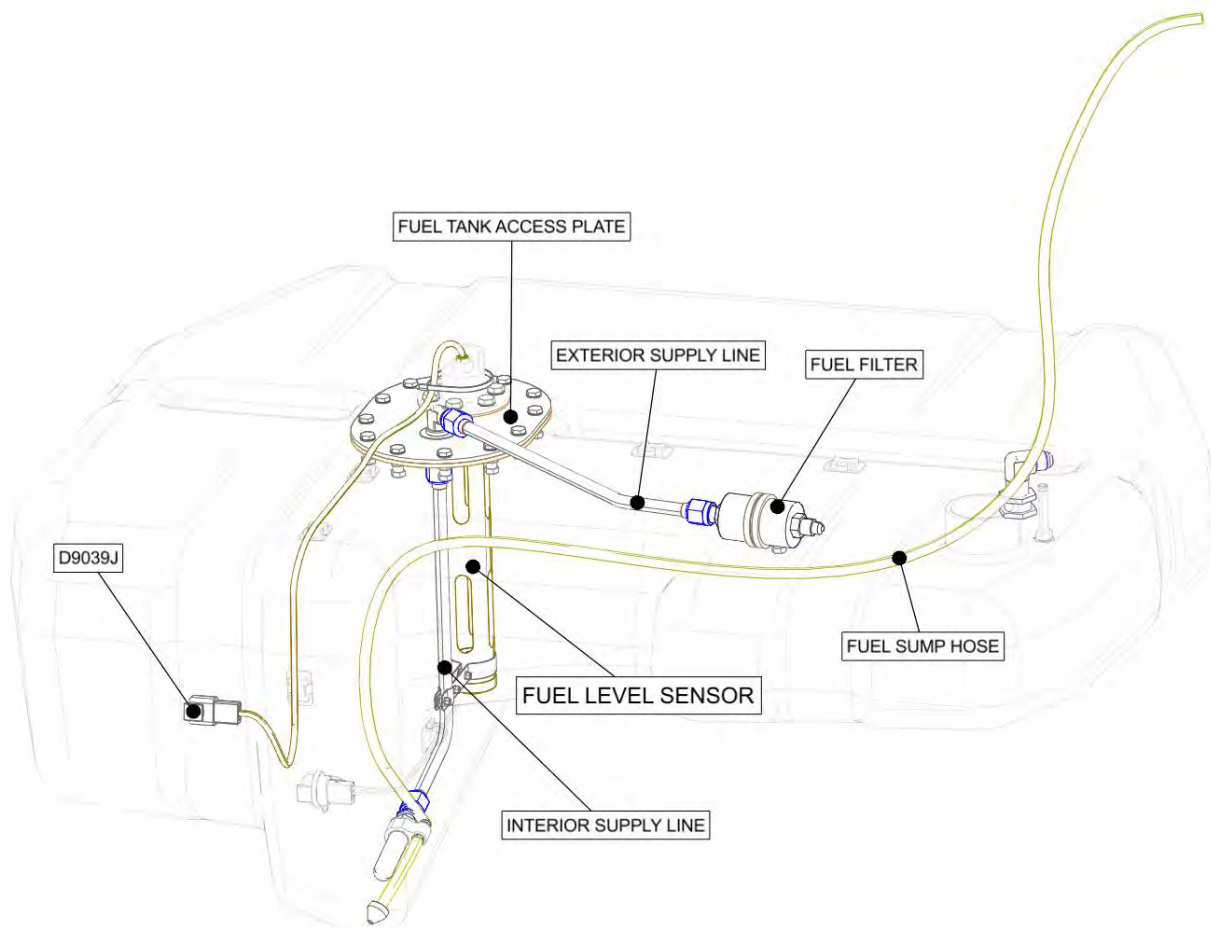

FIGURE 14-87
4. Disconnect the exterior supply line. See Figure 14-87.